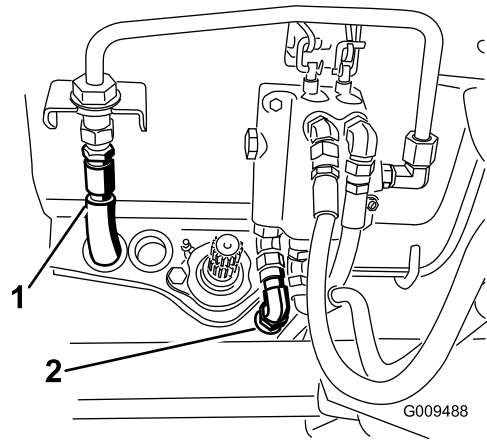

Figure 50
11. Connect the hydraulic pressure hose to the valve hard line and tank hose to the valve (Figure 50). Retain the hose plugs for the summer change over.